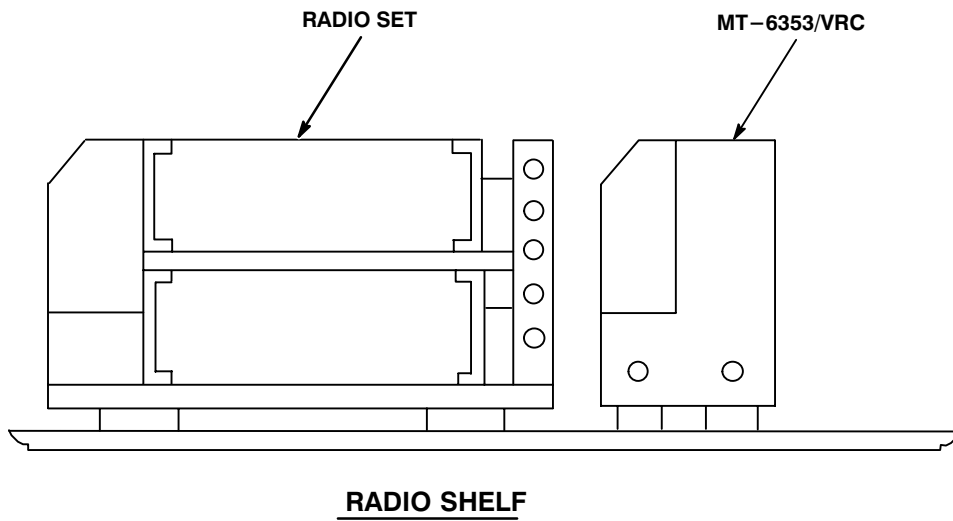

Figure 5-1 (2). MK and Radio Installation: Radio Equipment Locations
5.1 Installation of Antenna AS-3900/VRC (antenna). Use the following procedures to install front and rear antennas. See figure 5-1 (1) for locations.